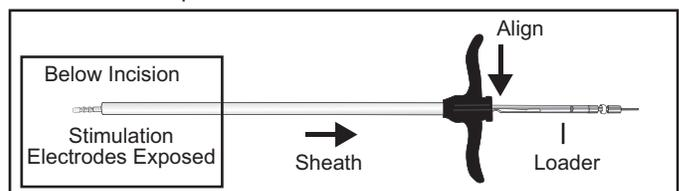

Figure 23: Slowly Withdraw the Sheath to the Mark on the Loader
- Slowly withdraw the sheath until the proximal end of the sheath aligns with the proximal end of the mark on the loader (see Figure 23). In this position, the stimulation end of the lead is exposed.